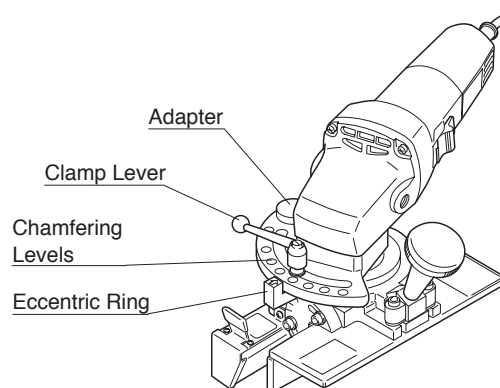
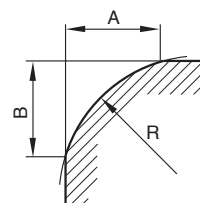

Fig.4
Fig.5
- (1) Loosen the Clamp Lever. (Fig.4)
- (2) Rotate the arrow mark of the Eccentric Ring to the Scale to adjust chamfering levels for chamfering amount required. (Fig.4)
- (3) Tighten the Clamp Lever after the adjustment. (Fig.4)
- (1) Fix a radius chamfering Indexable Inserts.
- (2) Loosen the Clamp Lever. (Fig.4)
- (3) Rotate the arrow mark of the Eccentric Ring to the scale of the Adapter to adjust chamfering levels according to the size of the radius chamfering Indexable Inserts.
- (4) Tighten the Clamp Lever after the adjustment.
- (5) Conduct a test cutting. Readjust the Clamp Lever, so that sizes A and B become identical. (Fig.5)